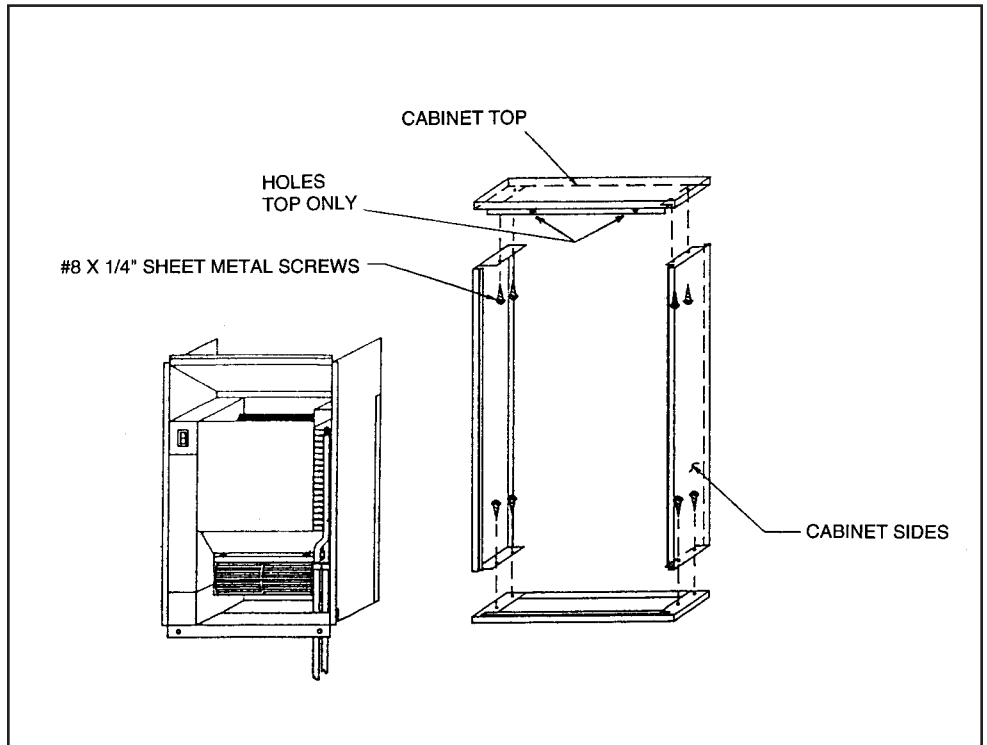
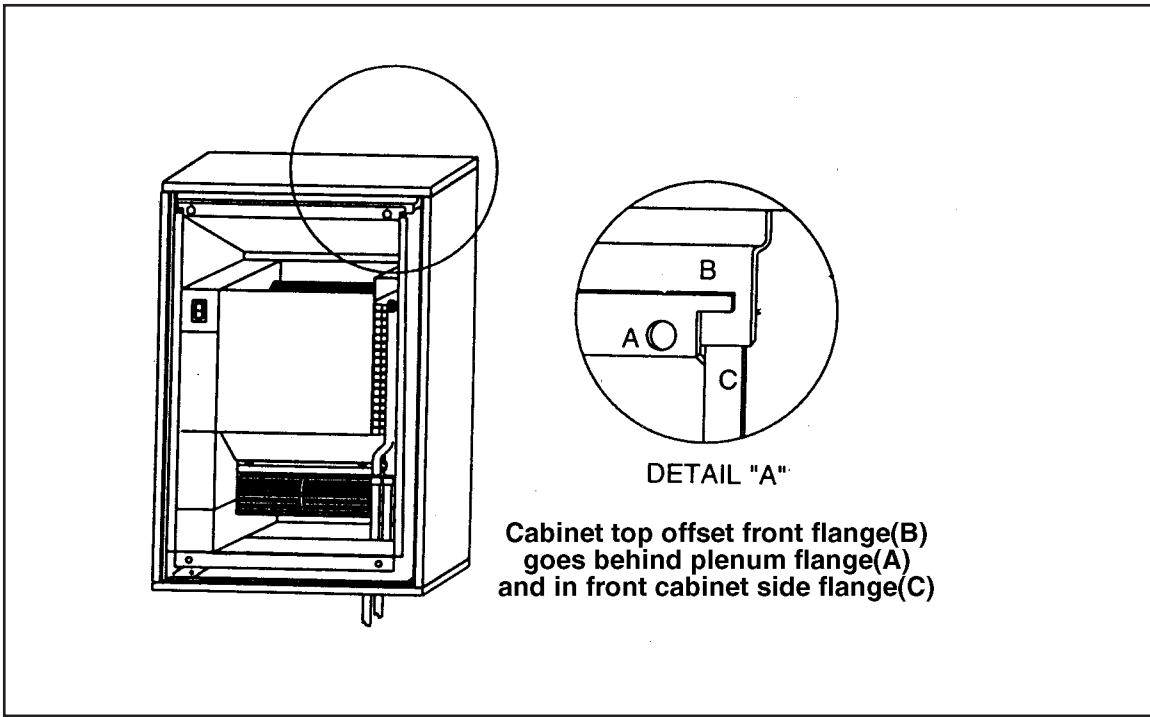
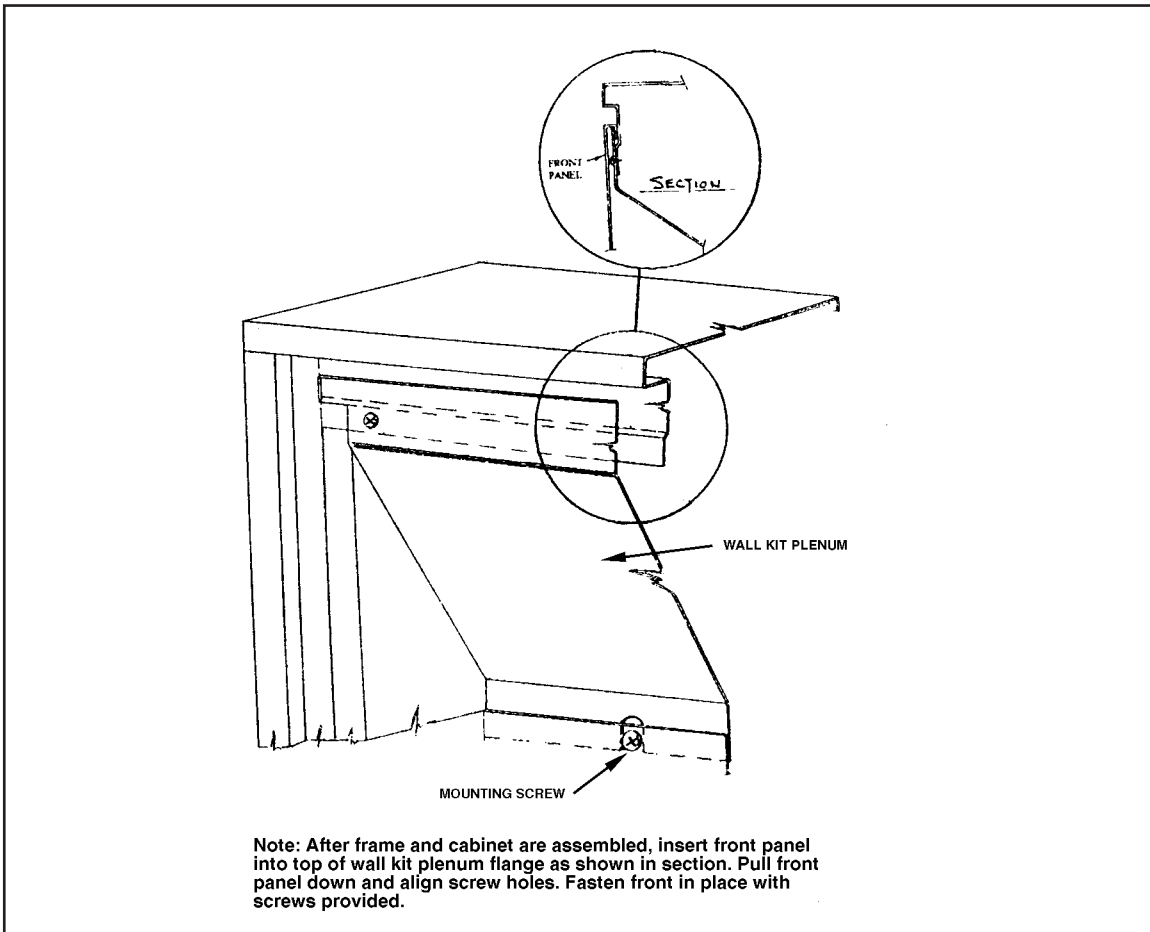

Figure 4. Cabinet assembly
Figure 5.
Figure 6.
5. Assemble cabinet sides, top and cabinet bottom. Attach to plenum with (10) #8 x 1/4" sheet metal screws. See Fig. 4, Fig. 5 and Fig. 6.